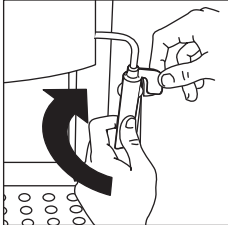

fig. 23
2. With one hand, hold the cappuccino tube firmly and with the other unscrew the cappuccino maker itself by rotating clockwise and extracting downwards (fig. 23).